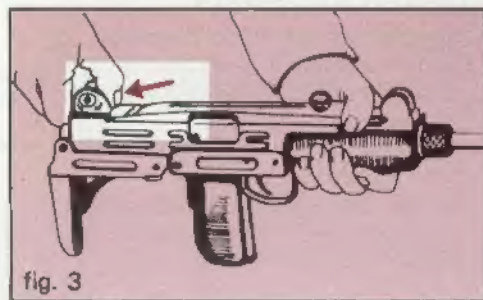

fig. 3
2. Push cover catch to the rear. (fig. 3).